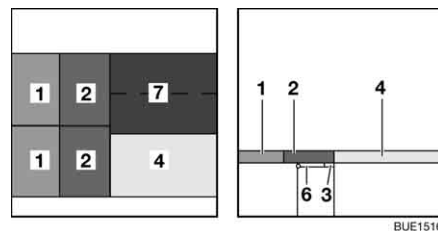

Fig. 140 After conversion
- Place the seat cushions (Fig. 140,2) on the unfolded bench seat cover.
- Unfold the extra cushion (Fig. 140,7) and lay it on the table in front of the seat cushion (Fig. 140,4).